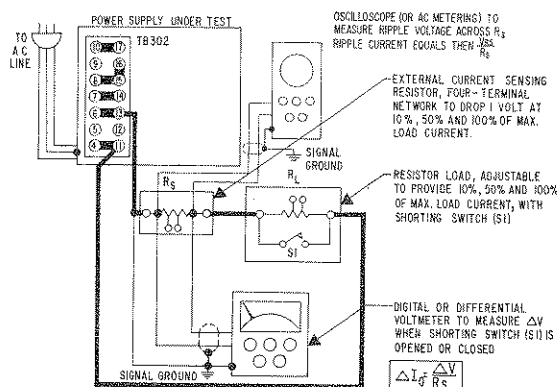

FIG. 5-3 MEASURING OUTPUT EFFECTS IN THE CURRENT MODE.
- b) Connect unit as shown in the test measurement setup, FIG. 5-3.